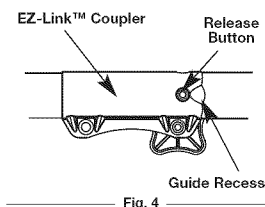

Fig. 4
2. Press and hold the release button (Fig. 4).
**NOTE:** Aligning the release button with the guide recess will help installation (Fig. 4).